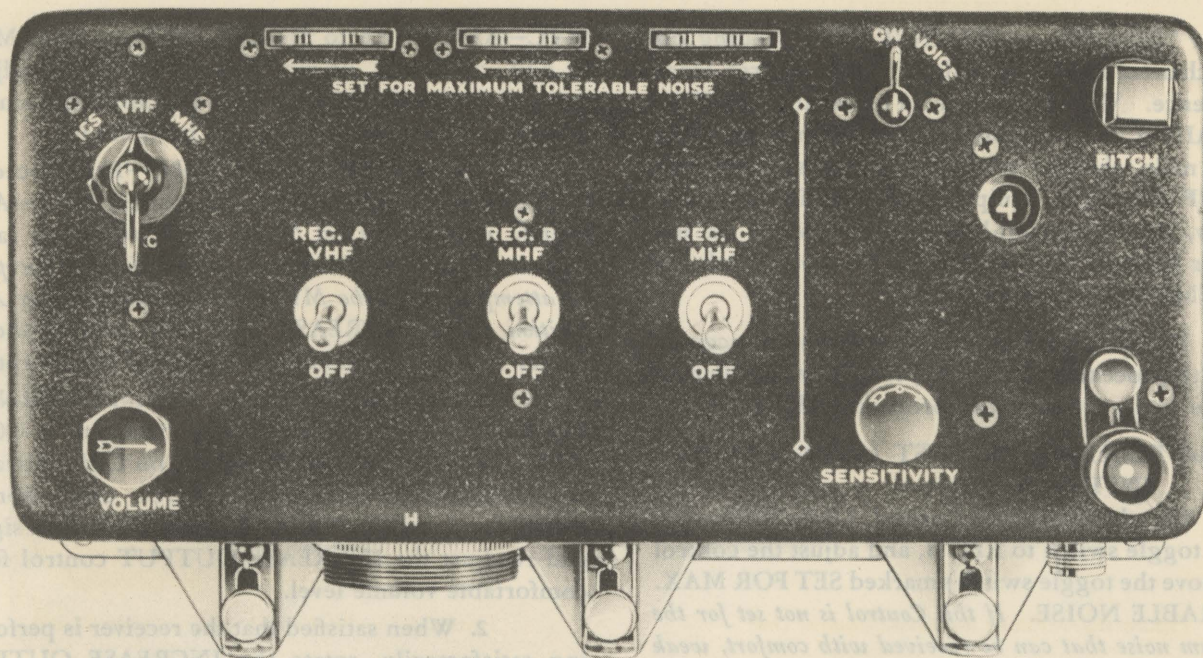

Figure 68 — Pilot's AN/ARC-5 Control Unit
(3) AN/ARR-2 RECEIVER.—This unit is located in the bombardier's compartment under the turret. It receives CW (continuous wave) signals on six bands. A tuning control crank, located on the pilot's AN/ARC-5 control unit, (see Figure 68) is turned to change bands. The ZB antenna rod is used with this receiver.
(b) AN/ARC-5 CONTROL UNIT, PILOT'S.—This unit (see Figure 68) controls the AN/ARR-2 Receiver, the AN/ARC-1 VHF Transmitter-Receiver, the AN/ARC-5 Receiver, and the Interphone system. It is located on the starboard side of the pilot's cockpit, see Figure 63.